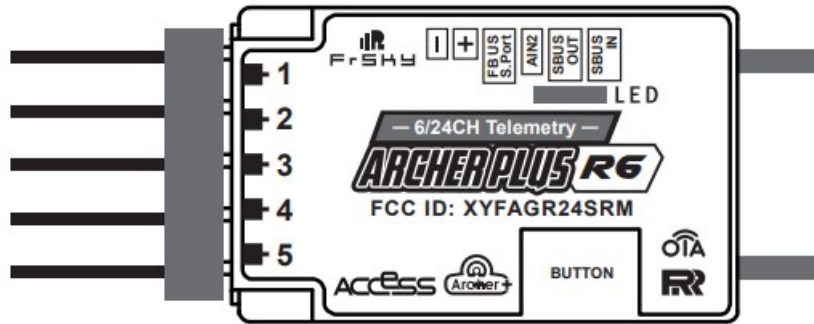

Figure 61: Archer Plus R6
- ii. On the Archer Plus R6, hold down the receiver button while powering up the Archer Plus R6. (Figure 61)